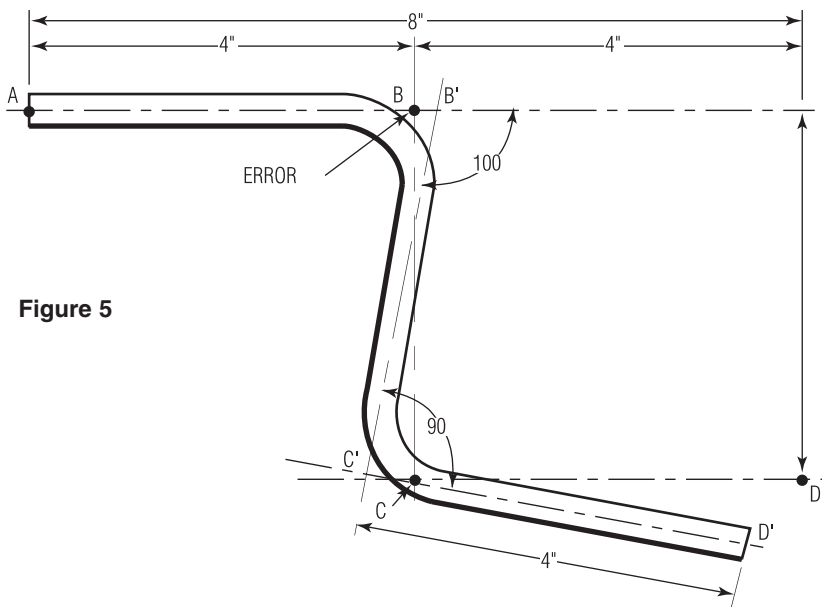

Figure 5
**Accurate bending** is necessary to achieve the exact angles required for the tube line. If you do not bend accurately, the tube line will not fit (Figure 5).